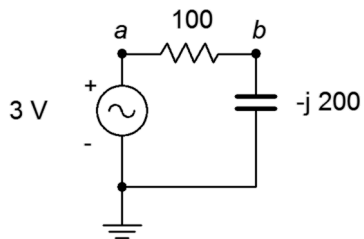

Figure 7.2
2. For the circuit shown in Figure 7.2, determine apparent power S , real power P , reactive power Q and power factor PF . Also, draw the power triangle.